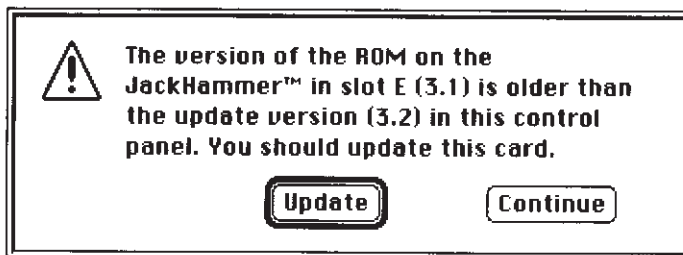

Figure 11: JackHammer Update dialog box.
2. Open the JackHammer Control Panel. It should automatically tell you that the Control Panel contains a newer version of JackHammer software and will ask you if you want to update it. Click on the Update button to update the Flash ROM firmware (see Figure 11).